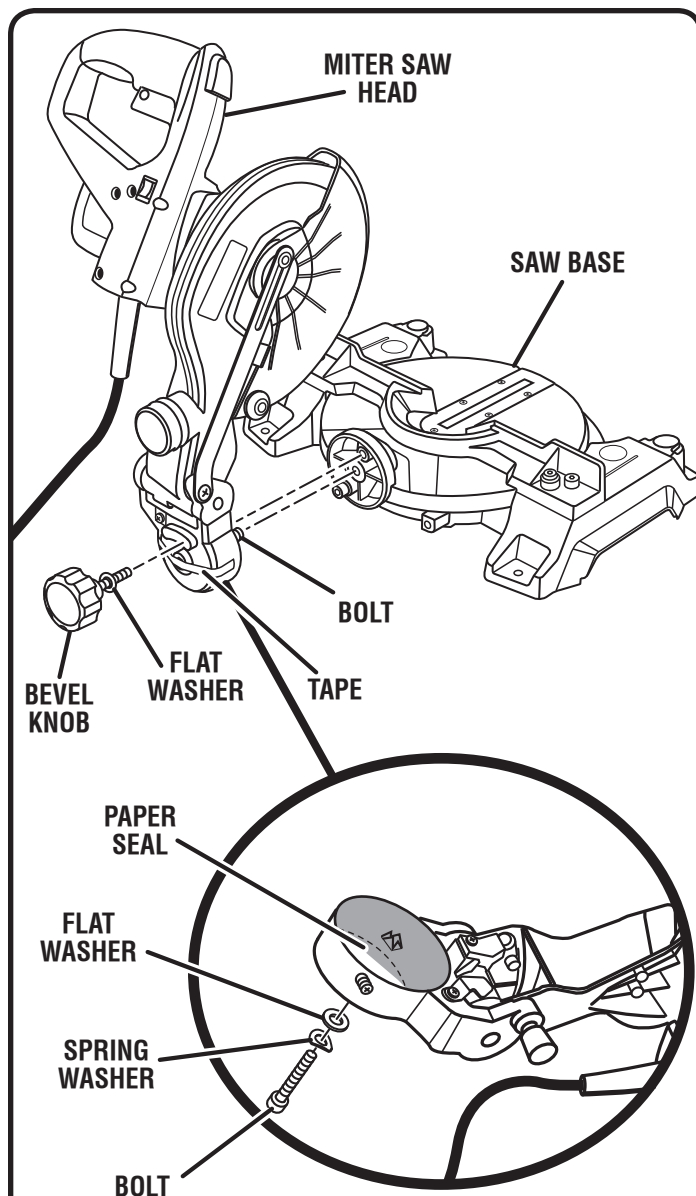

Fig. 10
See Figures 10 - 11.
- Place the miter saw head on the saw base oriented vertically as shown in figure 10. Install the bolt, spring washer, and flat washer; finger tighten.